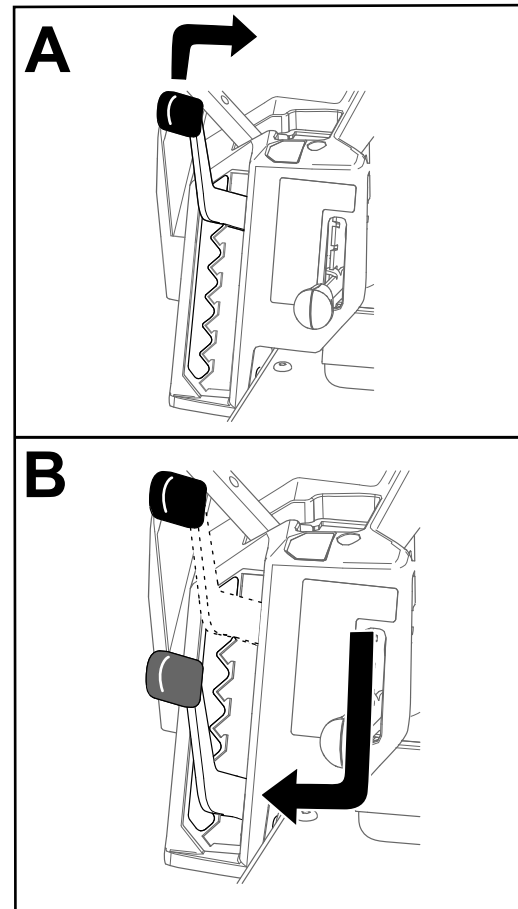

Figure 28
**Note:** The transport position is the highest height-of-cut position or cutting height at 114 mm (4-1/2 inches) as shown in Figure 28.
You can adjust the height of cut from 38 to 114 mm (1-1/2 to 4-1/2 inches) in 13 mm (1/2 inch) increments. The height of cut is controlled by the lever located to the right of the operating position (Figure 28).